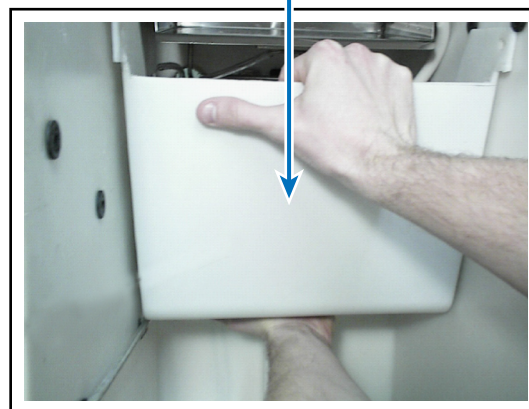

Figure 21
7. Remove reservoir by lifting drain tube off reservoir and away from circulation pump (see **Figures 21 and 22**).